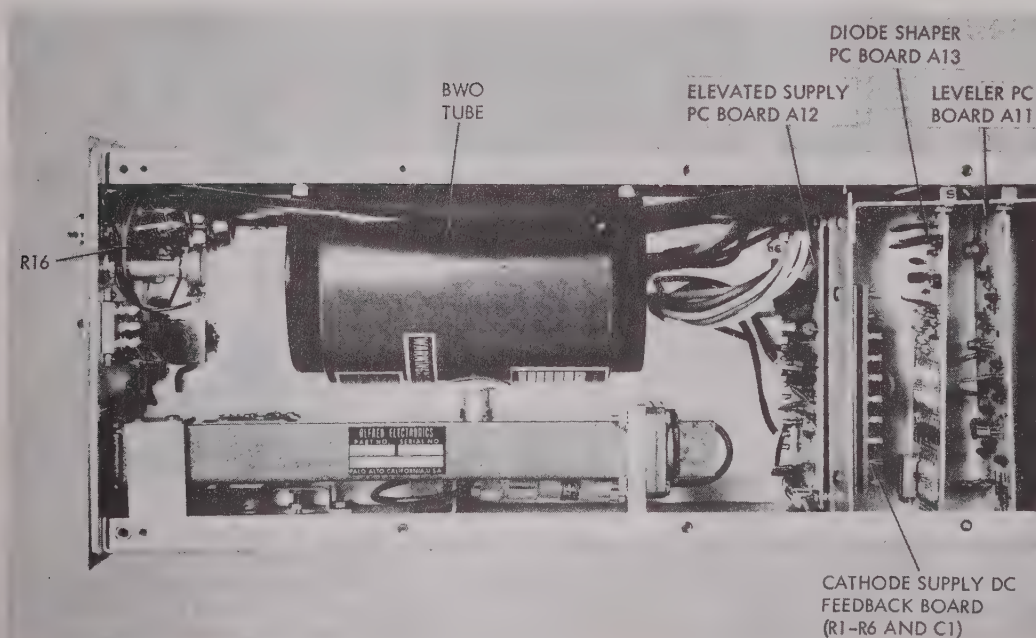

FIGURE 5-2. BOTTOM VIEW OF PLUG-IN UNIT CHASSIS
5.3.2 ADJUSTMENT PROCEDURES. (All adjustments are shown in Figure 5-2 of the Model 650 Instruction Manual.)